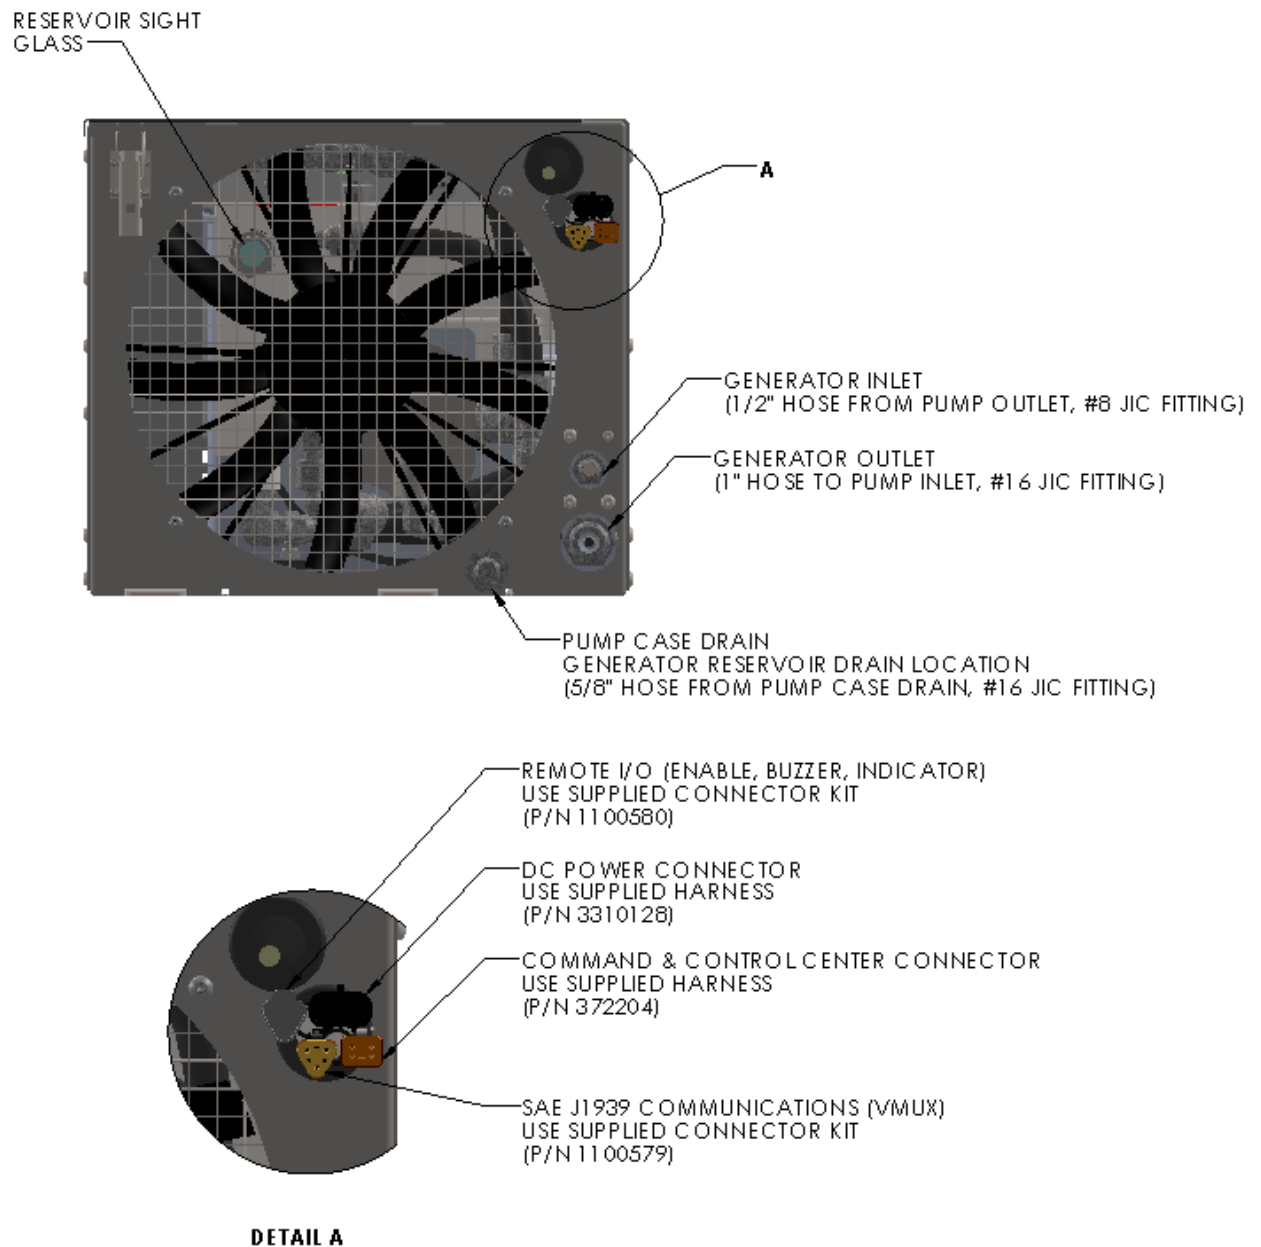

Figure 8 – ER-6.2, ER-8, ER-10 and ER-110 Interfaces
- c. Connect Command & Control Center to system controller unit (Figure 8) using p/n 3722004 harness.
6. Install hoses and tighten hose ends, using the **Hose Installation Guidelines**. See Figure 8 for connection locations.